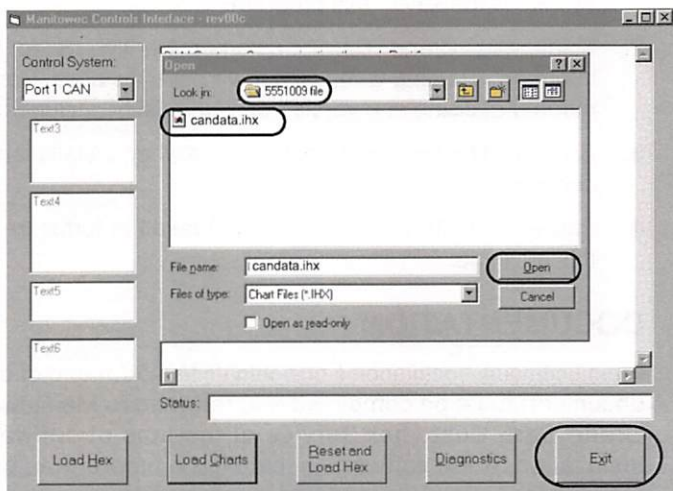

FIGURE 22
12. Select and click on **candata.ihx** icon to select file (see Figure 22). Click on **Open** button to open file. Rated capacity charts will now begin to load.
13. When screen changes to indicate a **Status** bar that programming is finished (Load Data in Address and Close File), the charts will be fully loaded into the crane's CAN bus system. Click **Exit** button on control interface screen (see Figure 22) and disconnect download cable.
12. When screen changes to indicate a **Status** bar that programming is finished (Load Data in Address and Close File), the charts will be fully loaded into the crane's CAN bus system. Click **Exit** button on control interface screen (see Figure 22) and disconnect download cable.
13. Click **Exit** button on control interface screen (see Figure 22) and disconnect cable. Scroll up or down on display and working screen will return.